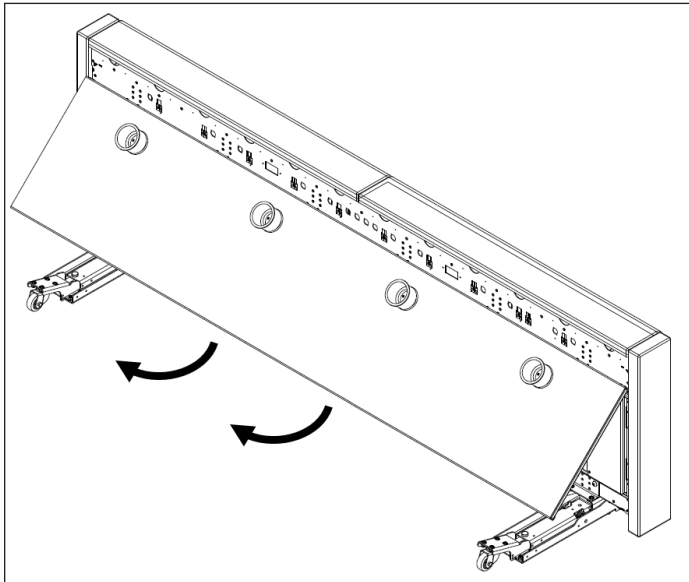

Figure 24: Lift up Tabletop
8. Grab the bottom edge of the tabletop with both hands spread slightly wider than shoulder width apart and lift the tabletop. Refer to **Figure 24**.